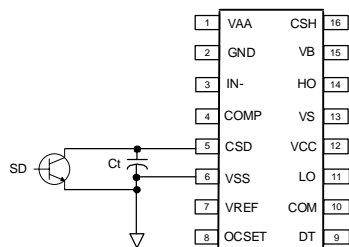

Figure 10 Shutdown Input
The IRS2092(S) can be shut down by an external shutdown signal SD. Figure 10 shows how to add an external discharging path to shutdown the PWM.